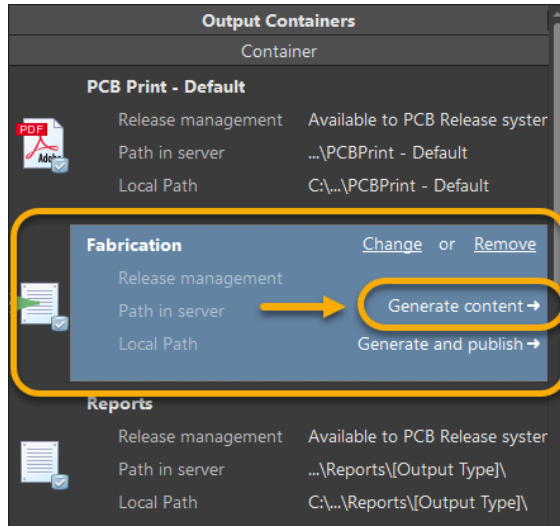

Figure 10. Generate Content - Fabrication Container
31. Change the focus to the *Fabrication.OutJob* file and the output container *Fabrication*. Click on the **Generate content** to generate a set of Fabrication files (Gerber, NC Drill, PCB ASCII, and IPC-2581) as shown at Figure 10.